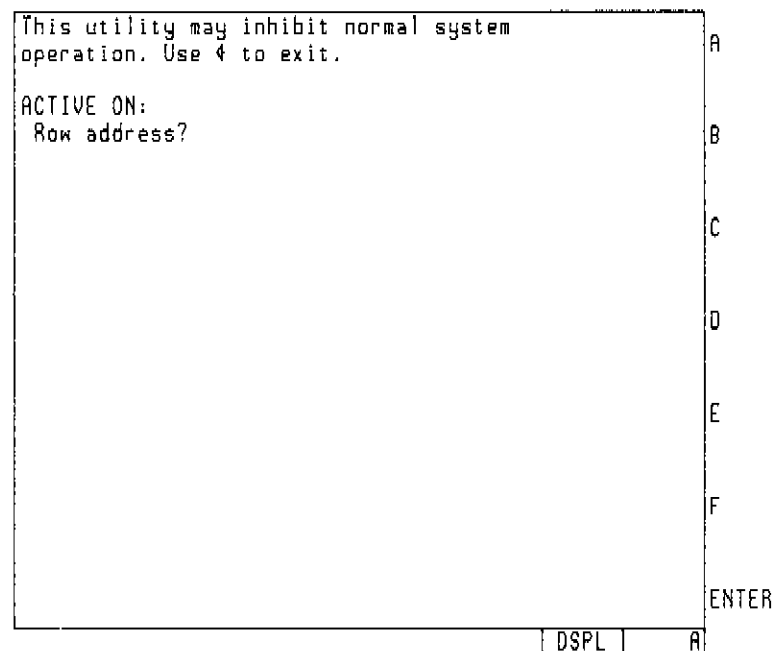

Figure 12. Alphabetical Soft Keys
4. Enter the column address--in hexadecimal--of the module. Use the alphabetical soft keys and the key pad to enter hexadecimal numbers. See Figure 12. Refer to the conversion table below.